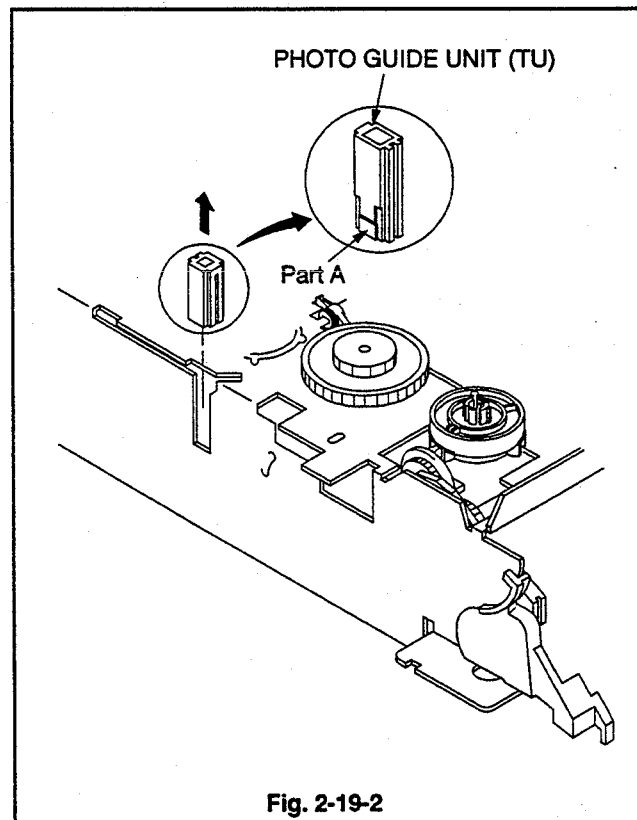

Fig. 2-19-2
2. Remove the PHOTO GUIDE UNIT (TU), shown in Fig. 2-19-2, in the direction shown by arrow.
1. Push the PHOTO GUIDE UNIT (TU) into the DECK to the bottom, with the Part A shown in Fig. 2-19-2 toward the inside of DECK.